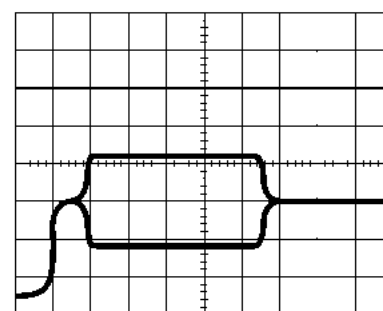

figure 5
- Lower the sweep coefficient again, to 0.5 $\mu\text{s}/\text{div}$. The burst now appears on the full screen, and may be examined in detail (Figure 5). Note that the sweep start position remains unchanged with respect to the signal. It can be further fine-tuned by adjusting the DELAY control.